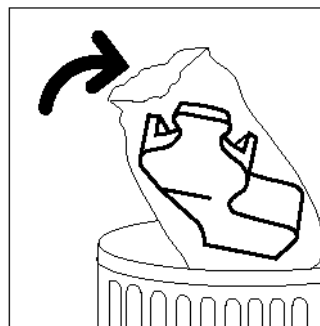

Figure 22: Disposing of the used Developer Waste Container
- 7** Place the used Developer Waste Container in a plastic bag, as illustrated in Figure 22, and dispose of it according to local regulations.